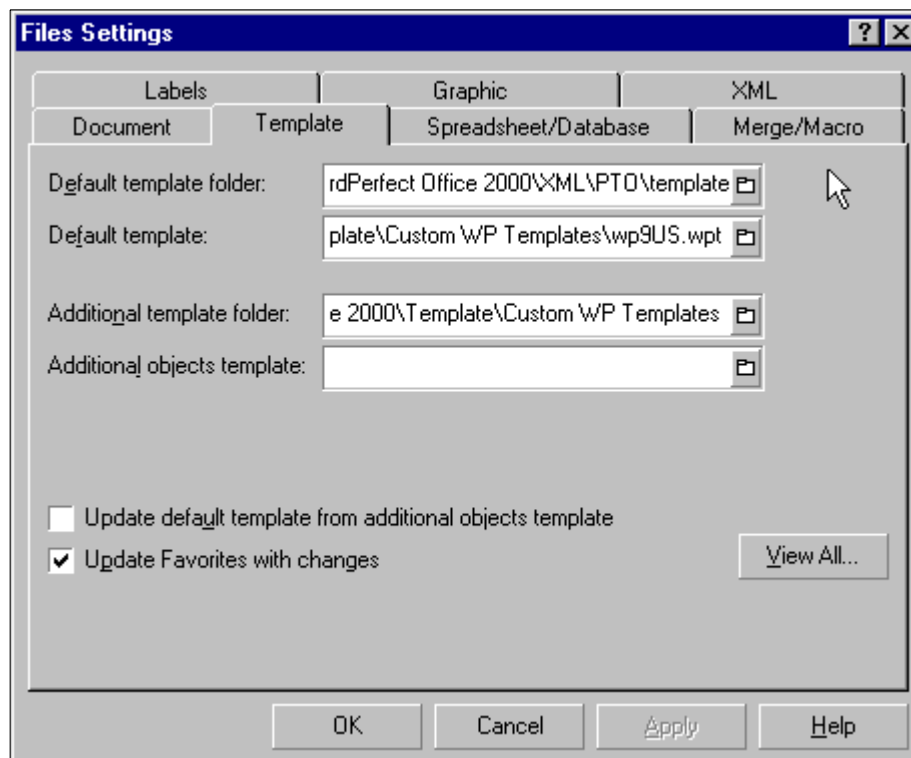

Figure 2-2 Files Settings Window: Template Tab
4. Click the **Template** tab (see Figure 2-2).